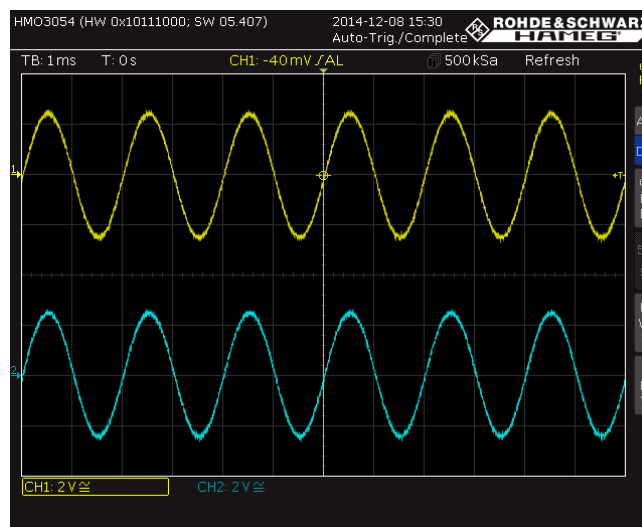

Fig. 2-37: Display of  $u_{in}$  (CH1, yellow) and  $u_{out}$  (CH2, blue) after the "AUTO SET".
- Press the *Auto Set* key. Triggering is on the rising edge of the input voltage  $u_{in}$  (CH1). X and y deflection are set automatically (Fig. 2-37).